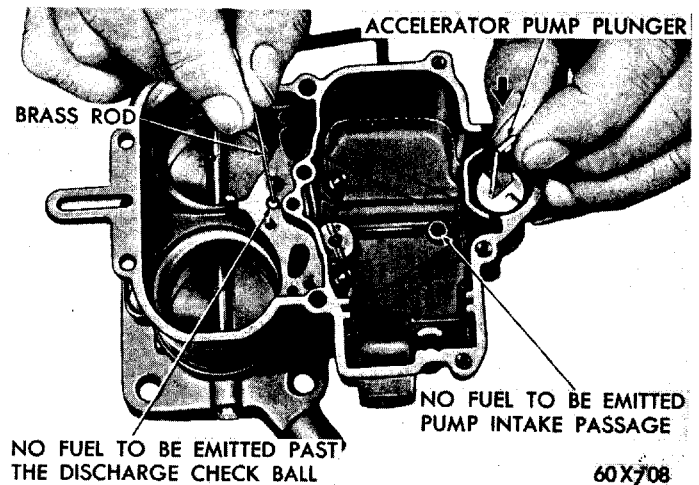

Fig. 17—Testing Accelerator Pump
(6) Pour clean gasoline into the carburetor bowl approximately $\frac{1}{2}$ inch deep. Remove the accelerator pump plunger from the jar of gasoline and slide down in its well. Raise the plunger and press lightly on the plunger shaft to expell the air from the pump passage.
(7) Using a small clean brass rod, hold the discharge check ball firmly down on its seat. Raise the pump plunger and press downward. No fuel should be emitted from either the intake or discharge passage, as shown in Figure 17.
(8) If any fuel does emit from either the intake or discharge passages, it indicates the presence of dirt or a damaged check ball. The passages should be re-cleaned and then thoroughly blown out with compressed air. Examine the check ball for signs of damage that would not allow the ball to seat properly.
(9) Reinstall the check ball and test again. If still leaking, place a piece of drill rod down on the check ball and rap sharply with a hammer. Remove the old check ball and install a new one. Then retest. (This operation forms a new ball seat in the carburetor casting.)